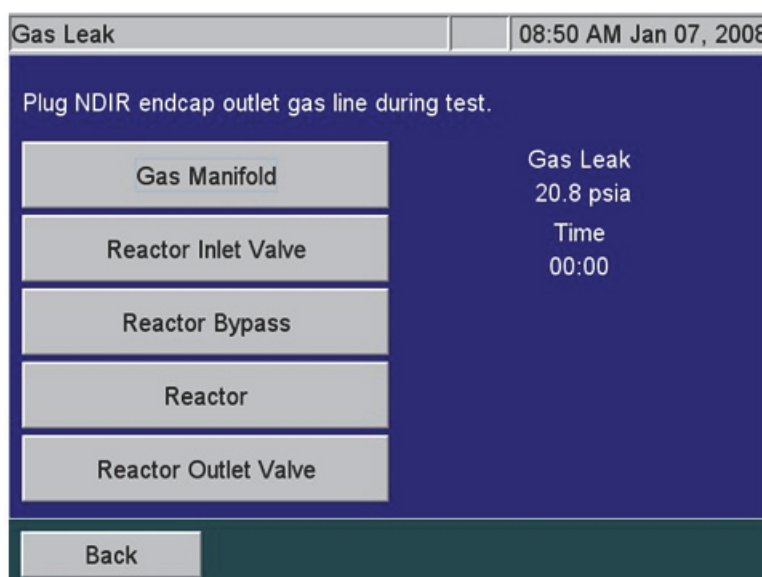

Figure 82: The Gas Leak Check Screen
3. On the *Diagnostics* screen (**Maintenance** → **Diagnostics**), press the **Gas Leak** button to display the *Gas Leak Check* screen (Figure 82). The pressure reading at the Pressure Sensor PS4-GS and a timer [initially is set to 00:00 (min:sec)] appear.